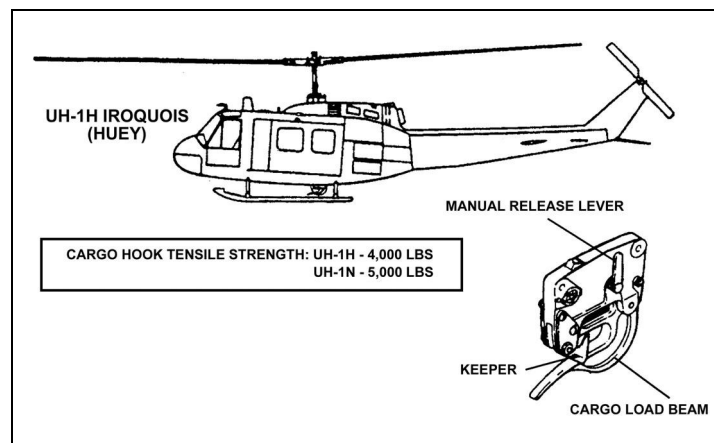

Figure 5-13. UH-1H Iroquois and its cargo hook.
(1) UH-1H/UH-1N Iroquois-4,000 or 5,000 pounds. See Figure 5-13.